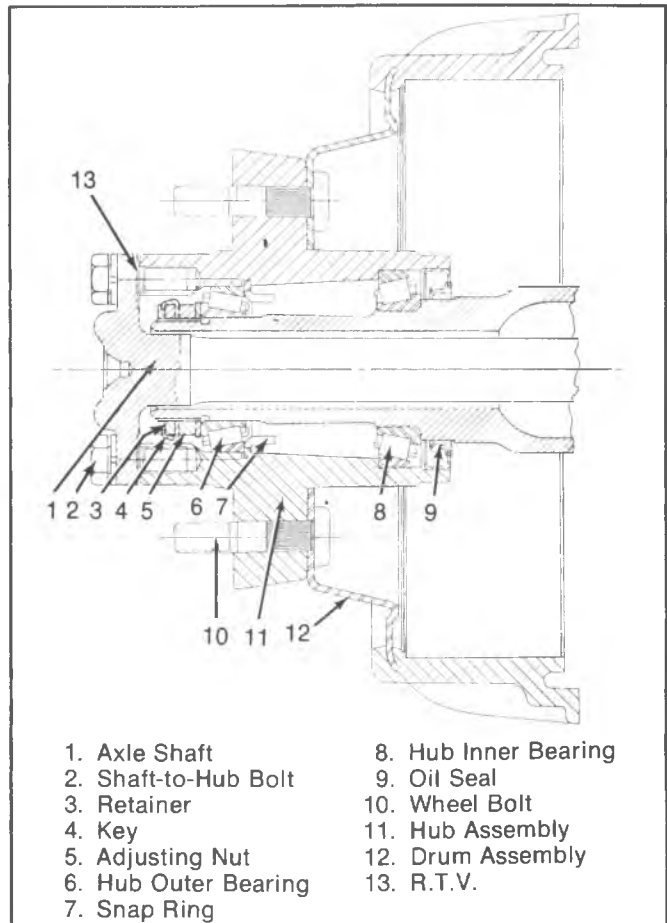

Fig. 4B-31--Hub and Drum Assembly--10-1/2" Axles
**HUB AND DRUM ASSEMBLY--FIG. 4B-31**